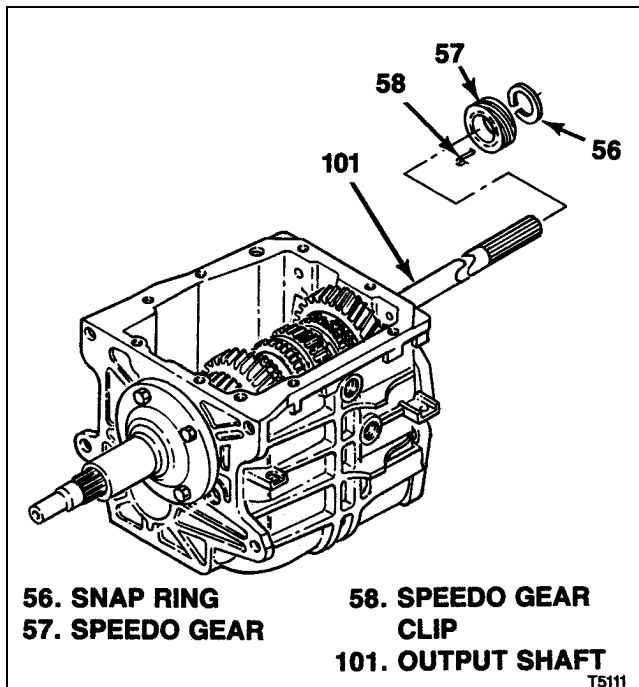

Figure 6-12. T5 WC Speedometer Gear
**6-14. INSTALLATION OF T5 WC SPEEDOMETER GEAR.** On models so equipped, install speedometer gear as follows (see figure 6-12):
- a. Position clip (58) on output shaft (101) with right angle end of clip in shaft hole. Start speedometer gear (57) onto output shaft, aligning gear slot with clip.
- b. Using suitable tubular drift, tap speedometer gear (57) onto shaft until spring end of clip (58) snaps up to retain gear.
- c. Install one snap ring (56).